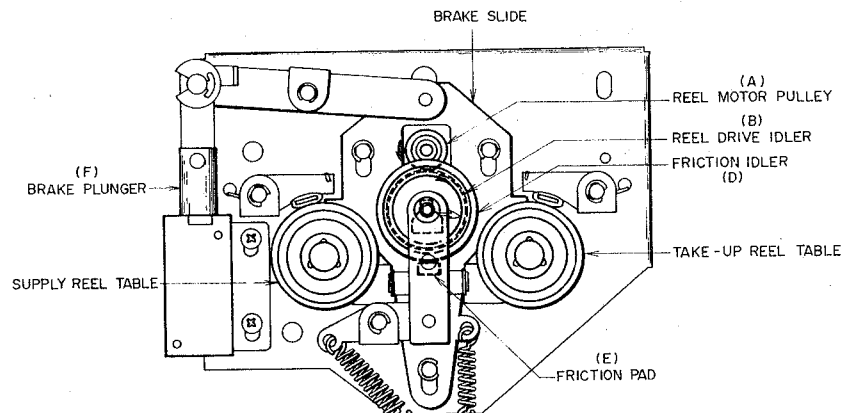
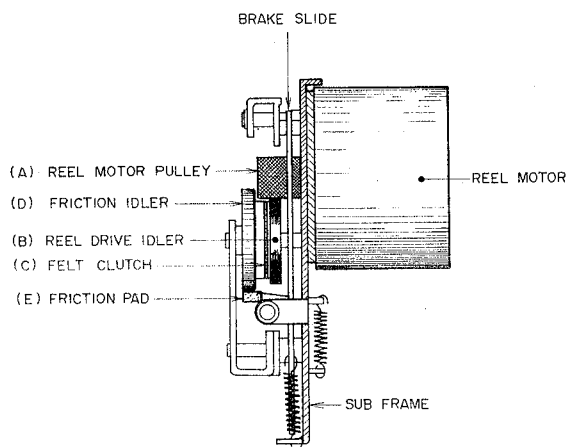

Fig. 4
Fig. 5
This mechanism employs the principle whereby the reel drive idler Fig. 4(B), Fig. 5(B) is regulated by the tape-up side and the supply side depending on the direction of the reel motor pulley rotation. Fig. 4(A), Fig. 5(A).
To ensure this transition, a felt clutch Fig. 5(C) has been placed between the reel drive idler and the friction idler on the same axis Fig. 4(D), Fig. 5(D), and a spring to pull the two idlers for friction. Damping force is applied only to the friction idler with the friction pad Fig. 4(E), Fig. 5(E) only when changing from the Stop Mode to the Tape Travel Mode. This damping force is stopped just before the tape travel.
Brake Plunger Fig. 4(F) is used for moving the mechanism to put the reel drive idler in contact with the reel table and for controlling the friction pad.